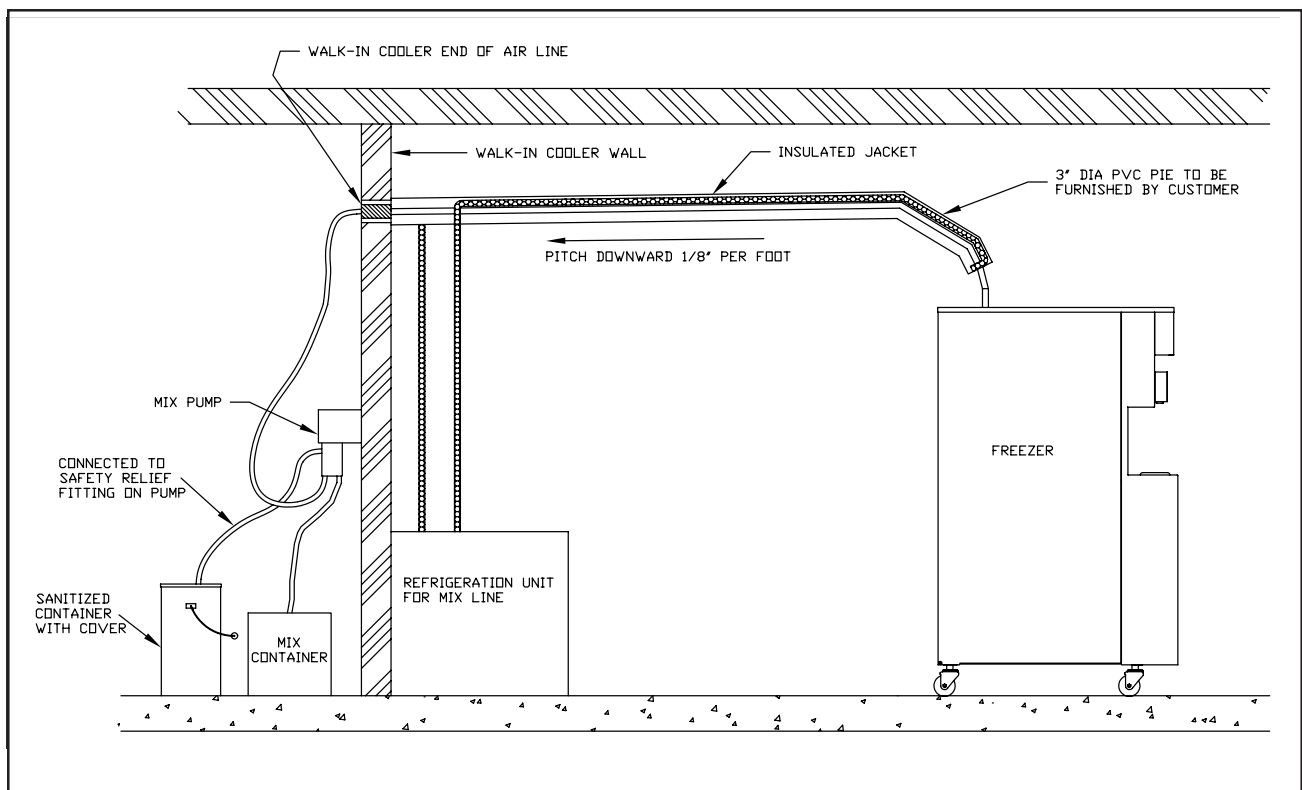

Figure 2. Refrigerated Mix Transfer Line
- A. This unit (**remote** pump) must be installed with a "NSF" listed refrigerated mix transfer line. The mix transfer line must be pitched to cooler, with no sags or low points, to allow complete drainage. (See fig. 2.)
The **hopper** mix pump is completely installed on the freezer. The **remote** mix pump is designed for mounting in a walk-in cooler. Select a location that is close to the soft serve freezer and a grounded 115 volt (220 volt if 50 hertz) receptacle. The mix pump should not be located near heavy traffic or in a congested area. Refer to Figure 2 and the following steps: